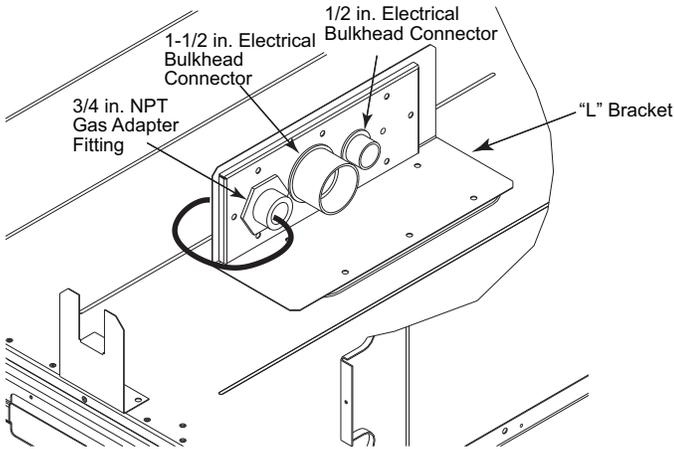

Fig. 24 — Thru-the-Base Option, Shipping Position
This service connection kit consists of a 3/4 in. NPT gas adapter fitting (stainless steel), a 1/2 in. electrical bulkhead connector and a 1-1/2 in. electrical bulkhead connector, connected to an “L” bracket covering the embossed (raised) section of the unit basepan in the condenser section. See Fig. 24.
1. Remove the “L” bracket assembly from the unit (see Fig. 24).